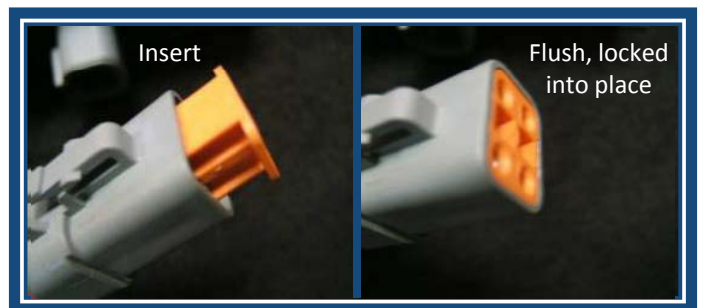

Figure 6
**Step 6:** Once both wires are inserted into the connector the orange lock can be inserted. (See Figure 6)